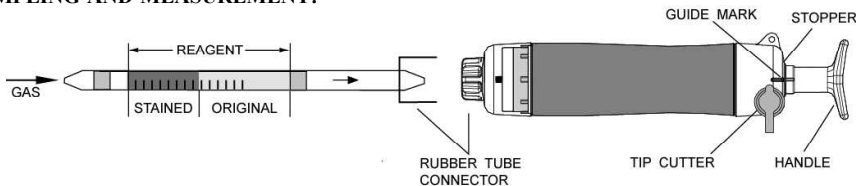

Fig.1
- ① Break both ends of detector tube.
- ② Insert the detector tube into aspirating pump securely as shown in Fig.1. (Arrow mark shall point to the pump.)
- ③ Align the guide marks on the shaft and stopper of the aspirating pump.
- ④ Pull the pump handle at full stroke until it locks and wait for 1 minute or until the completion of sampling is confirmed with the flow indicator of the pump (See descriptions about the flow indicator in the instructions of the pump).
- ⑤ Push the handle without removing the detector tube from the inlet, and air in the pump will be discharged perfectly. Then repeat the step ④ two times.
- ⑥ On completion of sampling, read the scale at the maximum point of the stained layer.
- ⑦ In case of 6 pump strokes, repeat above pulling and pushing procedures another 3 times after above step ⑤. And multiply the reading value corrected with the undermentioned CORRECTION FOR AMBIENT CONDITIONS, by 1/2.
- ⑧ In case of 9 pump strokes, repeat above pulling and pushing procedures another 6 times after above step ⑤. And multiply the reading value corrected with the undermentioned CORRECTION FOR AMBIENT CONDITIONS, by 1/3.